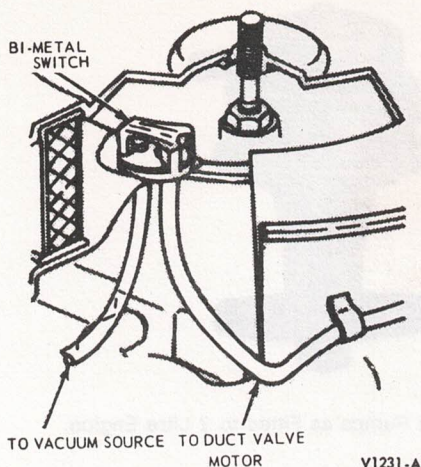
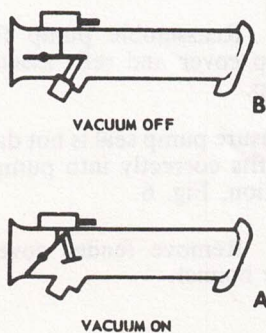

Fig. 3. Bi-Metal Switch—typical
Fig. 4. Duct and Valve Assembly
metallic switch controlled (Fig. 3), hot and cold type duct and valve assembly. The duct and valve assembly incorporates an access to the under-hood area (cold), similar to the conventional type air filter, and has in addition an access connected by means of a flexible pipe to the top of the exhaust manifold shroud (hot).
and opens the hot access (from exhaust manifold) opening, as shown in Fig. 4. (A). As the engine warms, the resultant hot air flowing through the air cleaner causes the thermal-operated bi-metal switch (Fig. 3) to unseat the bleed valve which 'bleeds' vacuum from the duct valve. The reduced vacuum/air pressure difference is overcome by the spring in the duct valve which opens the cold access (under hood) and closes the hot access (Fig. 4. (B)).